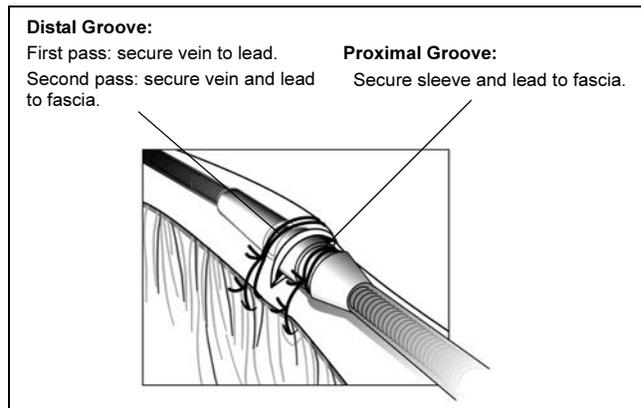

Figure 14. Using the sleeve with the venous cutdown technique.
1. Slide the suture sleeve into the vein past the distal groove. Ligate the vein around the suture sleeve to obtain hemostasis. Next, using the same groove, secure the lead and vein to the adjacent fascia (Figure 14).